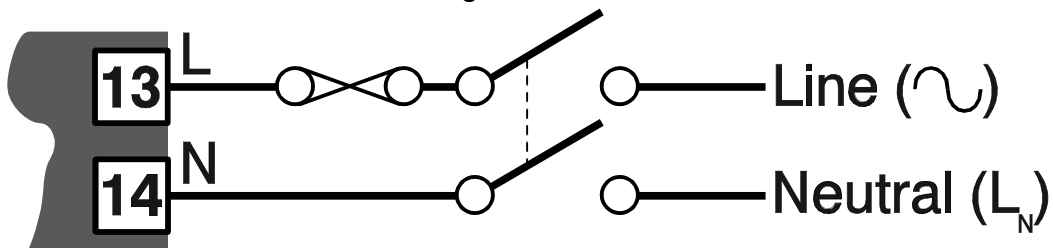

Figure 1-5 Mains (Line) Supply Connections
**CAUTION:** This equipment is designed for installation in an enclosure which provides adequate protection against electric shock. Local regulations regarding electrical installation should be rigidly observed. Consideration should be given to prevention of access to the power terminations by unauthorised personnel. Power should be connected via a two-pole isolating switch (preferably situated near the equipment) and a 1A fuse, as shown in Figure 1-5.